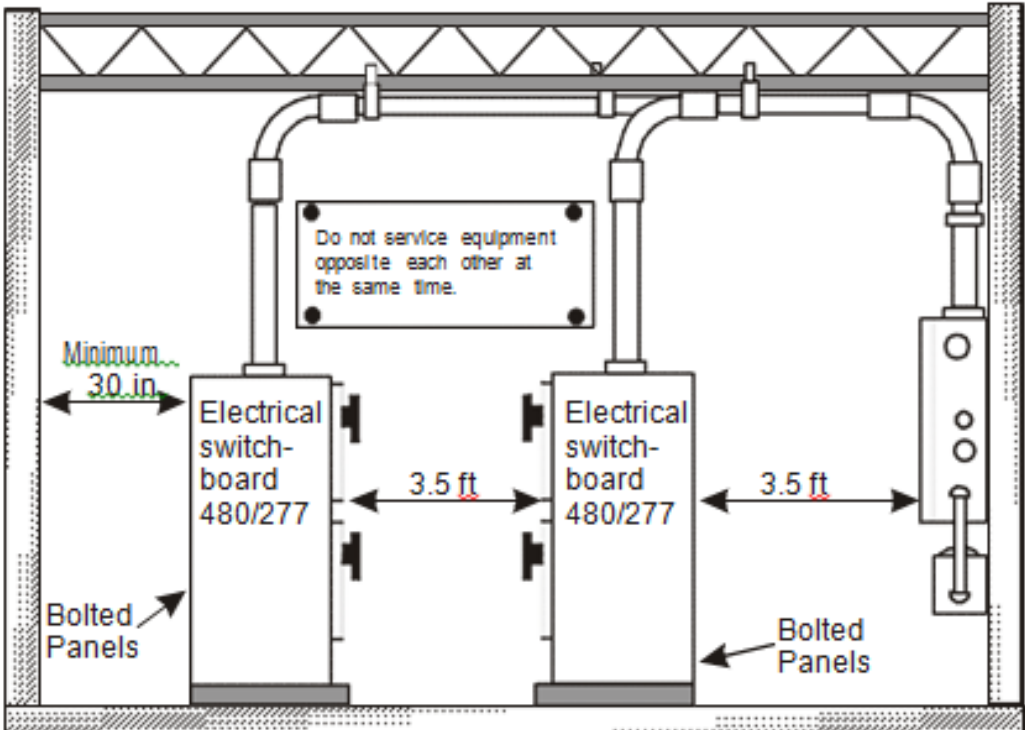

Figure 6.3 – Working space requirements for rear or side access
- B.** Provide a working space of at least 30 inches horizontally where rear or side access is required to work on de-energized parts of enclosed equipment (see figure 6.3).